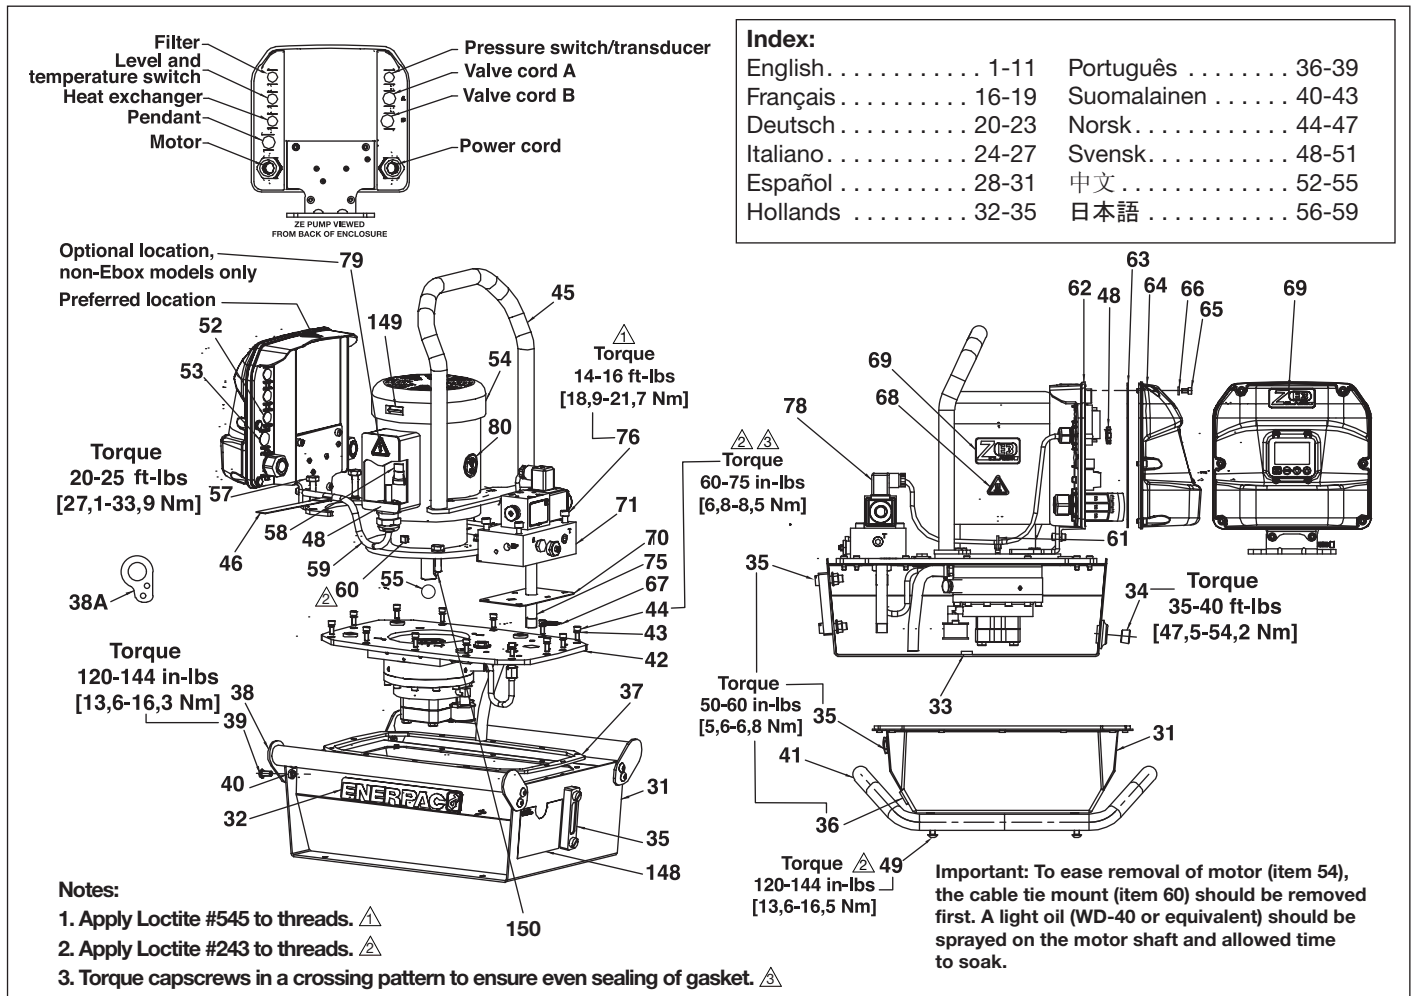

Figure 1, Pump Assembly
#### Repair Parts List for Figure 1
**Repair Parts List for Figure 1, continued**